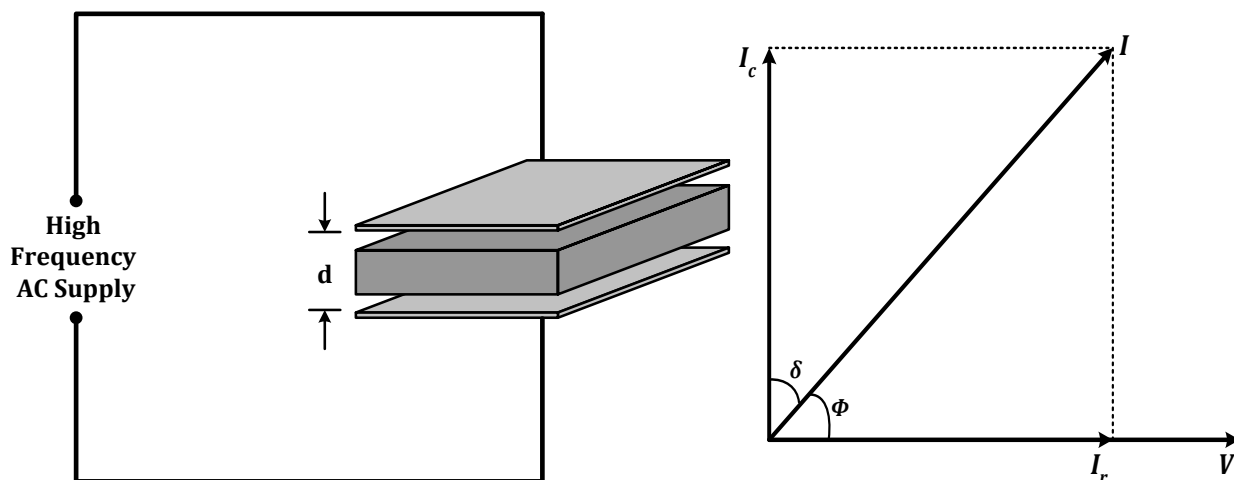

Figure 3.14 Dielectric Heating
- The insulating material is placed in between two conducting plates in order to form a parallel plate capacitor shown in figure 3.14.